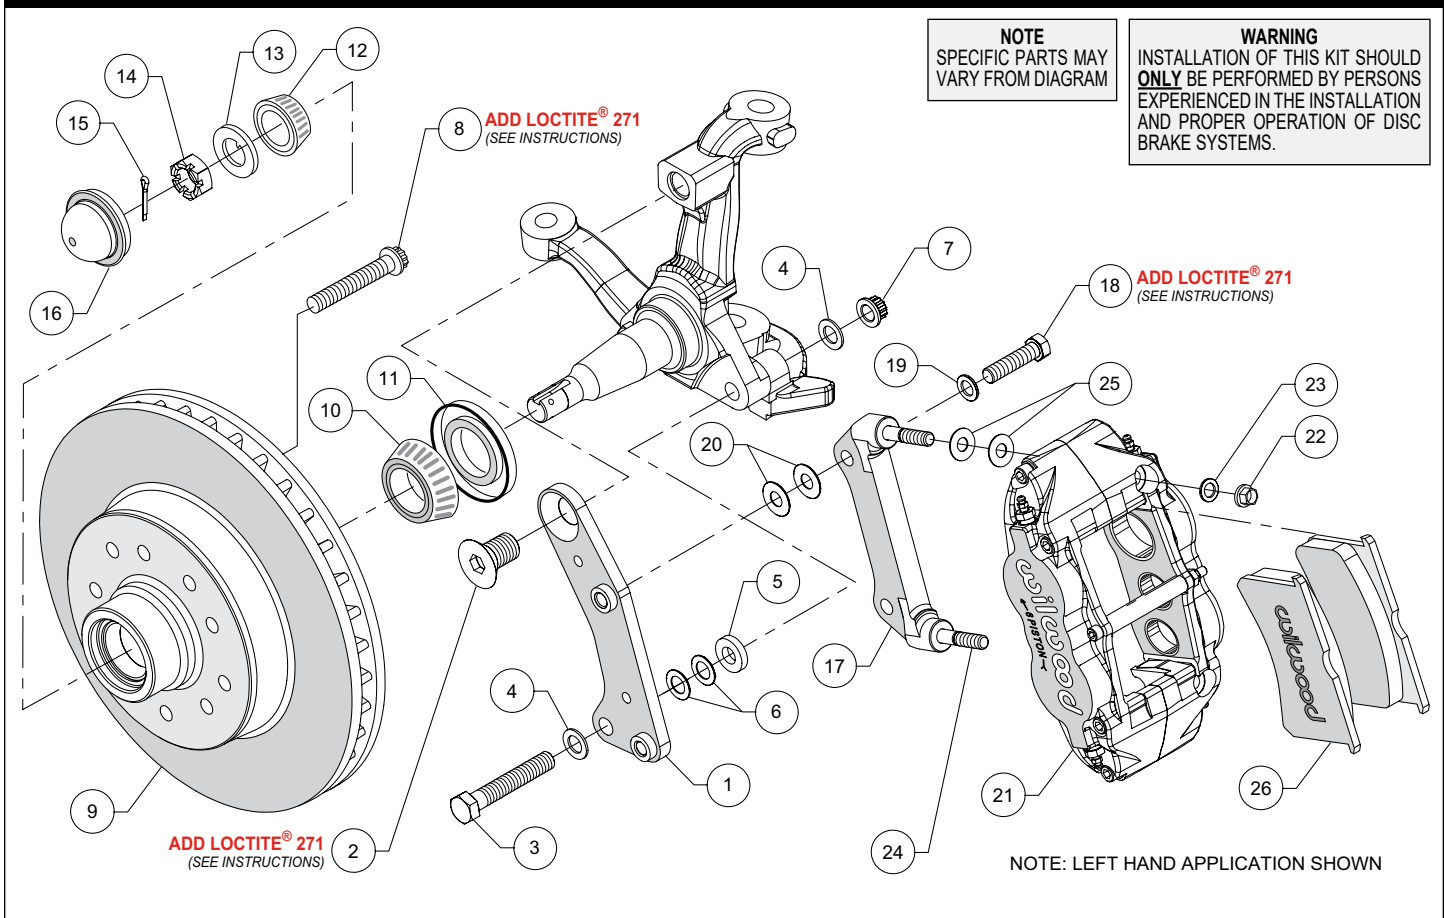
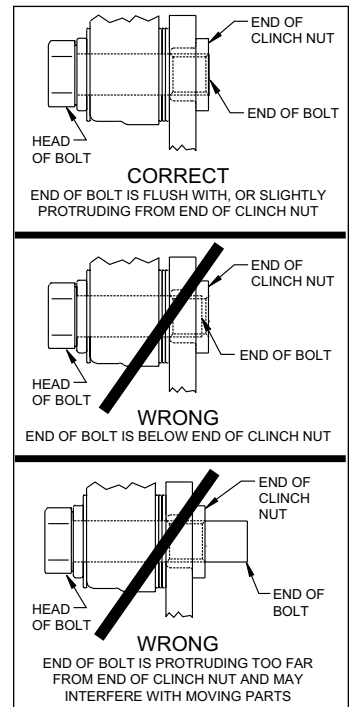

Figure 1. Typical Installation Configuration
Figure 3. Clinch Nut Engagement Diagram
Assembly Instructions (numbers in parenthesis refer to the parts list and Figure 1 on the preceding pages): **CAUTION:** All mounting bolts must fully engage clinch nuts. Be sure to check that all bolts are either flush or protruding through flanged side of clinch nut after shimming, Figure 3.
- The flat bracket (1) should initially be installed with clean, dry threads on the mounting bolts. Orient the flat bracket as shown in Figure 1 and Photo 1, and install using bolts (2 and 3), nuts (7), washers (4) and spacer (5), Figure 1. Initially place two .032" thick shims (6) on the lower bolt between the bracket and spacer, Figure 1. Ensure that the flanged heads of the clinch nuts in the bracket are facing outboard, Photo 1. Temporarily tighten the mounting bolts. **NOTE:** The bracket must fit squarely against the mounting points on the spindle. Inspect for interference from casting irregularities, machining ridges, burrs, etc. Later, after the bracket alignment has been checked, the upper bolt will be secured using red *Loctite*® 271.
- Temporarily install the hub/rotor (9) onto the spindle using outer bearing (12), spindle washer (13), and spindle nut (14). Check that the caliper mounting bracket (1) is aligned parallel to the rotor, Photo 5. If not, adjust by adding or subtracting shims (6) on the lower bolt between spacer and bracket, Figure 1. Once the bracket alignment is correct, remove the upper bolt (2), apply red *Loctite*® 271 to the threads and torque to 150 ft-lbs. Torque nut (7) to 65 ft-lbs.
- Remove hub/rotor and pack the small outer bearing cone (12) with high temperature disc brake bearing grease and final install into the front side of the hub (9), Photo 6. Slide the hub/rotor onto the spindle. Secure using spindle washer (13), and spindle nut (14), Photo 7. Adjust bearing per OEM specifications. Install a new cotter pin (15).
- Press the dust cap (16) into the hub/rotor (9), Photo 8. always apply pressure to the flange of the dust cap, not the center.
- NOTE:** Please reference the caution statement at the beginning of the assembly instructions. The caliper mount bracket (17) should initially be installed with clean, dry threads on the mounting bolts. Orient the bracket as shown in Figure 1 and Photo 9 and install using mount bolts (18) and washers (19). Initially place two .030" thick shims (20) on each bolt between the caliper bracket (17) and spindle bracket (1), Figure 1. Temporarily tighten the mounting bolts. Later, after the caliper alignment has been checked, the mount bolts will be secured using red *Loctite*® 271.
- **NOTE:** This kit contains distinct right and left hand calipers that must be mounted in a specific direction, as described below. Initially place two .035" thick shims (25) on each stud (24) between the caliper and the bracket, as shown in Figure 1 and Photo 10. Mount the caliper (21) onto the bracket (17) using lock nuts (22) and washers (23), Figure 1. Ensure that the caliper is mounted so that the largest pistons are at the rotor exit end of the caliper, in relation to the direction of rotor rotation. Temporarily tighten the lock nuts and view the rotor through the top opening of the caliper. The rotor should be centered in the caliper, Photo 11. If not, adjust by adding or subtracting shims (20) between the caliper bracket and the spindle bracket. Always use the same amount of shims on each of the two mounting bolts. **NOTE:** The end of each bolt must be flush with or slightly protruding from the head of the clinch nut, as shown in Figure 3. If necessary place spare shims between washer (19) and caliper mounting bracket (17) to achieve the proper clinch nut engagement. Once the caliper alignment and clinch nut engagement are correct, remove the bolts one at a time, apply red *Loctite*® 271 to the threads, and torque to 60 ft-lb.